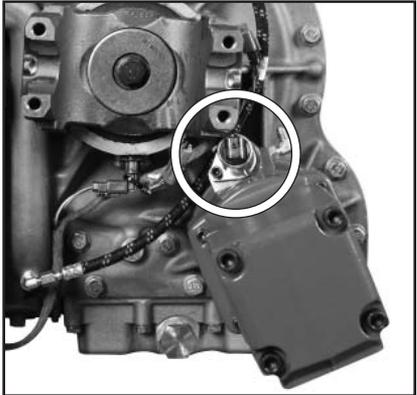

Fig. 6
7. DO NOT INSTALL P.T.O. with the solenoid between the 8 o'clock to 11 o'clock position as it could come into contact with the output yoke/flange on the transmission. (Fig. 6)